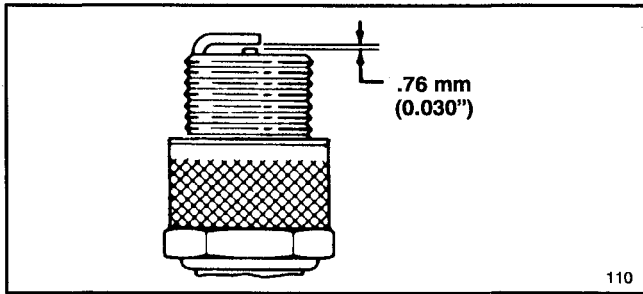

Figure 19
3. Set air gap at 0.76 mm (0.030") (Fig. 19). Install correctly gapped spark plug and gasket seal. Tighten plug firmly to 19 N·m (14 ft-lb).